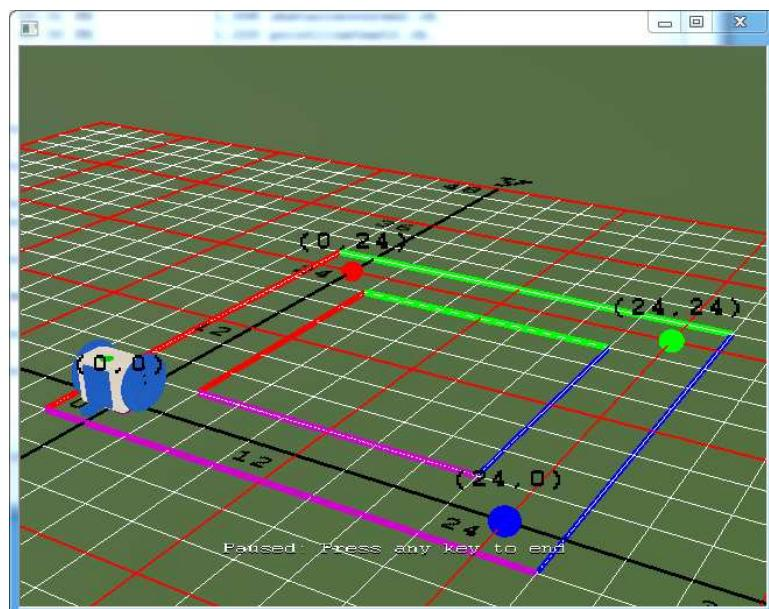

Figure B.23: The RoboSim scene with an obstacle course by the program `pointlinetext3.ch`
2. Write a program `pointlinetext3.ch` draw an obstacle course as shown in Figure B.23. The size for points in the obstacle course is 2. The line width for all lines is 2.
4. Write a program `obstaclecourse3.ch` to drive a robot following the obstacle course as shown in Figure B.23.